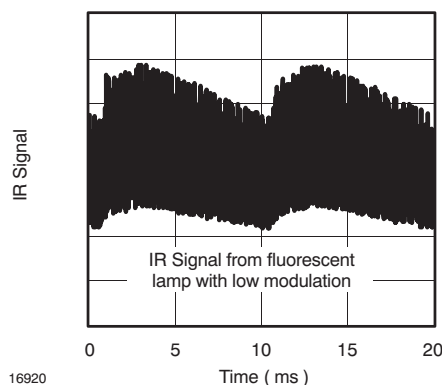

Figure 14. IR Signal from Fluorescent Lamp with low Modulation
- Signals from fluorescent lamps with electronic ballast with high or low modulation (see Figure 14 or Figure 15).